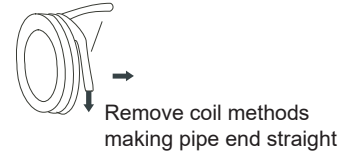

Figure 5.3
b. Bending thin-wall connecting pipe (Fig. 5.3).
① Cut away a notch of a required size in the insulated tubing at the place of sinuosity when operating with the sinuosity, then expose the pipeline (wrap it up with binder after it gets bent).
② Bend radius as much as possible so as to avoid squash or destruction.
③ Use the pipe bender to make close sinuosity.